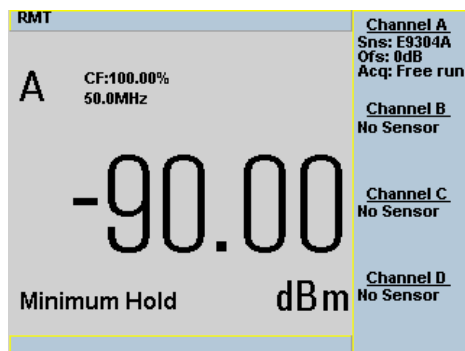

Figure 3-34 Measurement mode in full word
- 6 Press  to display the measurement window in full screen mode. The measurement mode will be indicated in full word in the expanded window (see Figure 3-34).